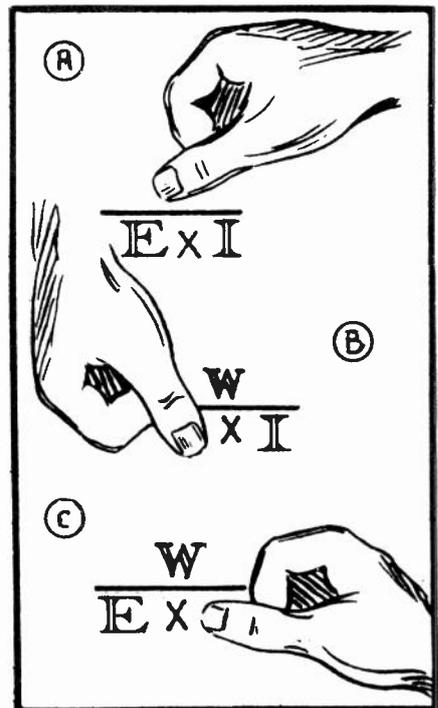

FIG. 10
TO ILLUSTRATE THIS MORE CLEARLY, WE CALL YOUR ATTENTION TO FIG. 10. TO FIND THE WATTS IN A CIRCUIT, SIMPLY COVER THE *W* AS SHOWN AT (A), AND THE REMAINING PORTION TELLS US TO MULTIPLY THE VOLTS BY THE AMPERES. TO FIND THE VOLTS, COVER THE *E* AS SHOWN AT (B), AND THE BALANCE OF THE EXPRESSION TELLS US TO DIVIDE THE WATTS BY THE AMPERES. FINALLY, AT (C) COVERING UP THE *I*, WE CAN FIND THE AMPERES BY DIVIDING THE WATTS BY THE VOLTS.